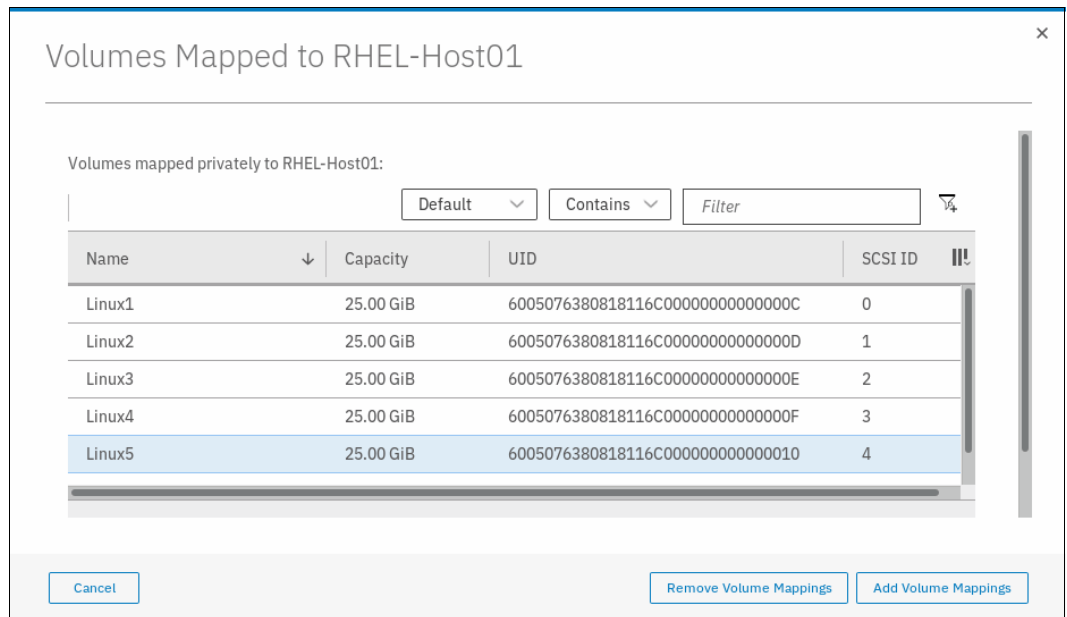

Figure 8-11 List of volumes that are mapped to the host
- Click **Modify Volume Mapping**. A window that includes a list of volumes that are mapped to the selected host opens, as shown in Figure 8-11.